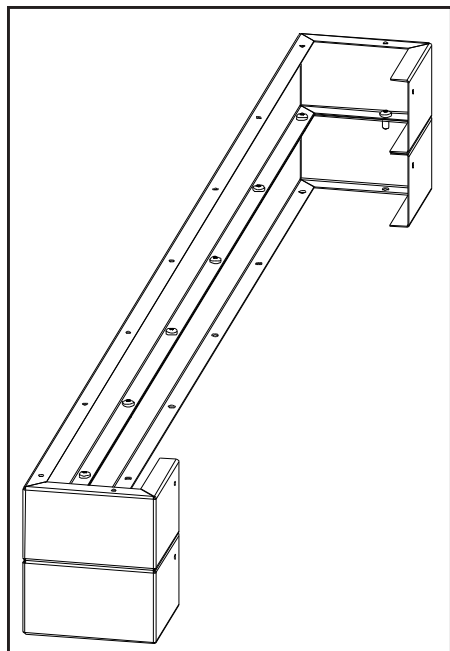

Figure 37: Combining 2 Base Shelf Riser.
2. When using more than one riser each level must be attached using nine (9) #8 T-20 screws provided (see Figure 37).